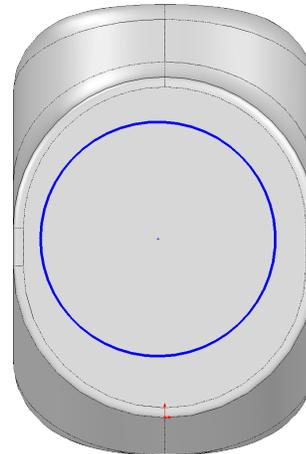

Fig. 28
Step 3. Click **Circle**  (S) on the Sketch toolbar.
Step 4. Sketch circle on front face, **Fig. 28**.